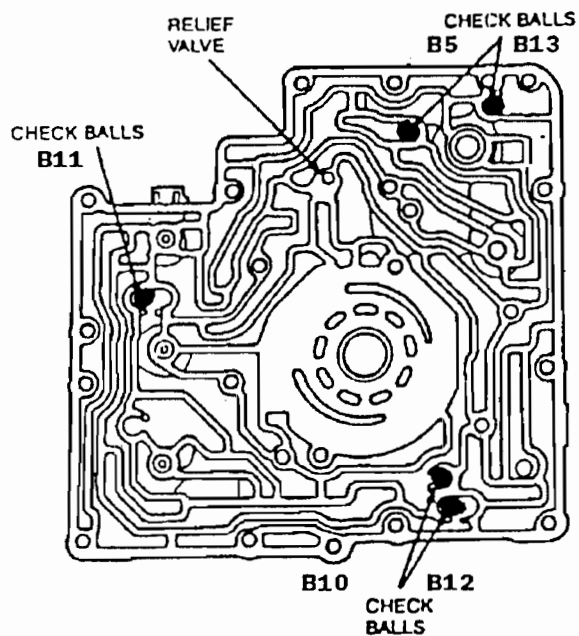
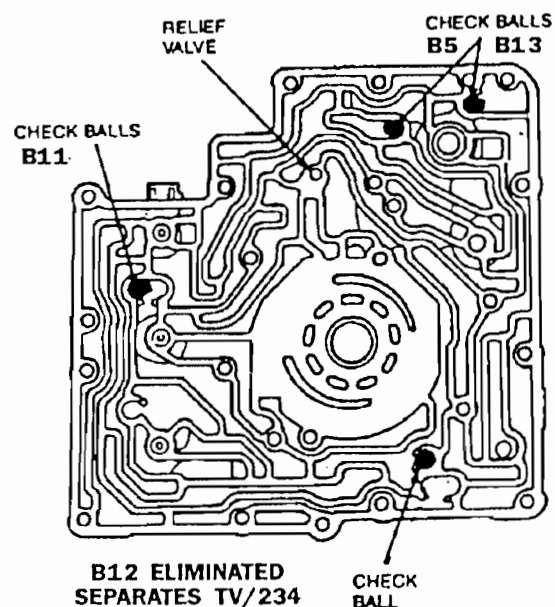

Figure 4
Figure 5
- CAUSE:** These conditions may occur because of intermediate clutch failure on some early built 1991 A be caused by a worn (B10) check ball in the pump assembly. Figure 5.
**NOTE:** When the new check balls are installed, there will be one (1) less check ball used in the oil pump side of the main control. The B12 check ball is no longer used. The check ball locations will be the same as the later built 1991 models, Figure 5. Figure 4 shows the early check ball layout.